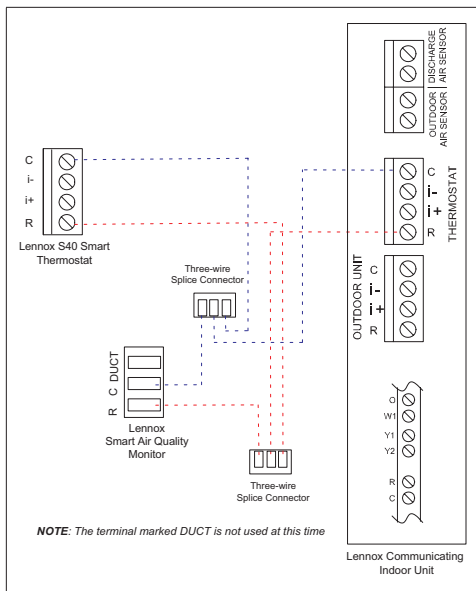

Figure 4. Using Indoor Unit Power and Connecting at Thermostat
- Recommend connecting SAQM to the S40 using the provided splicing connectors. Both devices will be powered by the indoor unit transformer as long as no other equipment is attached (see "Figure 4. Using Indoor Unit Power and Connecting at Thermostat" on page 12).